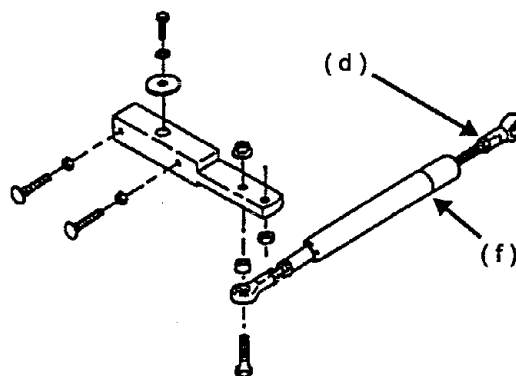

FIG. 6
- d) The Neutral Centering Device is located on the right-hand underside of the engine deck. Loosen jam nut (d) from the ball joint which connects the override assembly (f), to the engine deck anchor mounting (See Figure 6).